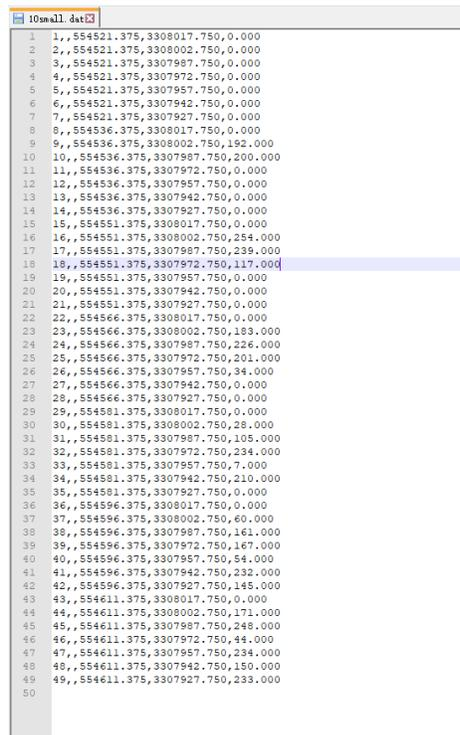

Figure 3-143 Generated elevation point information file
2. Next, you need to set the format of the export file, which is mainly dat, txt (NXYZ) and xyz (NXYZ) text file format. As this function can generate files for multiple point clouds in batch, you need to select the folder to save the batch files and click <OK> to start generating, the generated elevation point information file is shown in Figure 3-143.